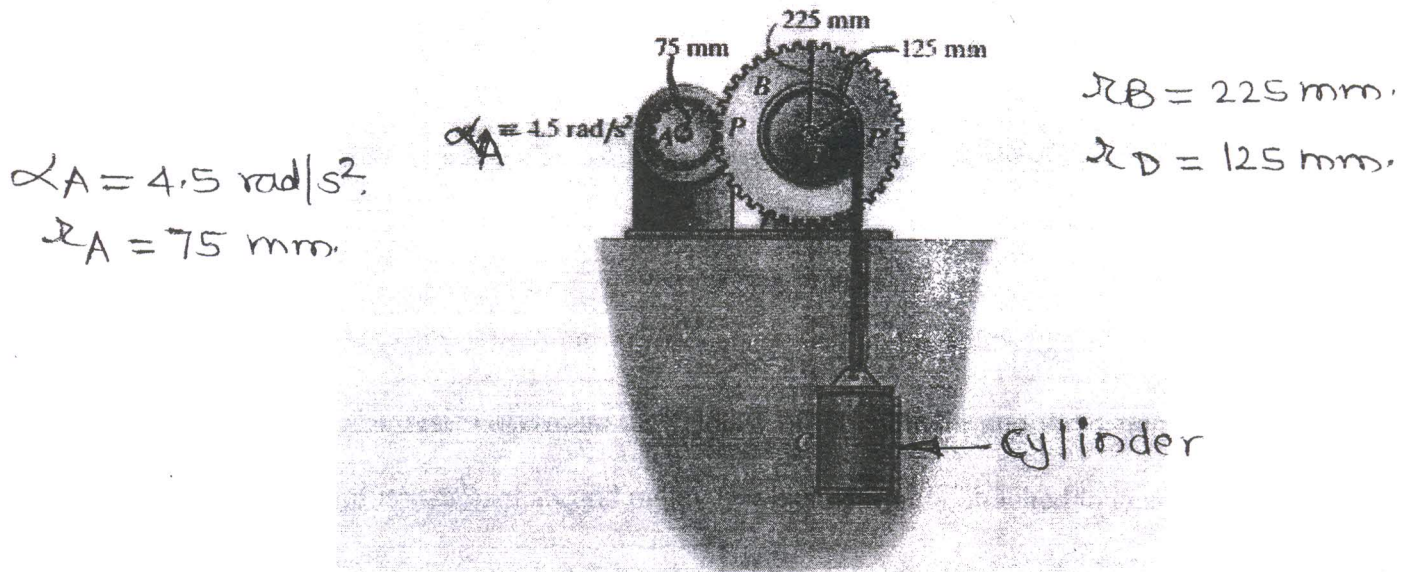

Fig. Q.8
Q.8 For a short period of time, the motor turns gear A with a constant angular acceleration of $\alpha_A = 4.5$ rad/s², starting from rest. Determine the velocity of the cylinder and the distance it travels in three seconds. The cord is wrapped around pulley D which is rigidly attached to gear B. Refer Fig. Q.8